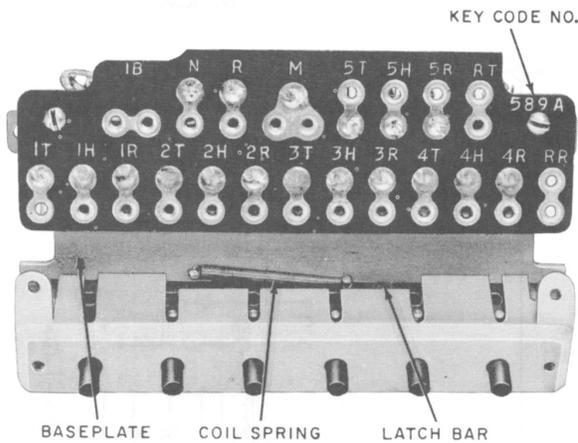

Fig. 3—589-Type Key, Top View
2.14 Field maintenance of the 589H key (Fig. 3 and 4) consists of: